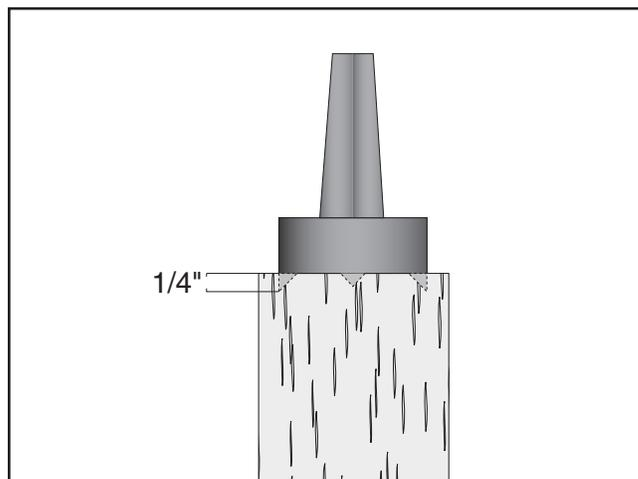

Figure 25. Spur center properly embedded.
5. Drive the spur center into the center of the workpiece with a wood mallet to embed it at least $\frac{1}{4}$ ", as shown in **Figure 25**.